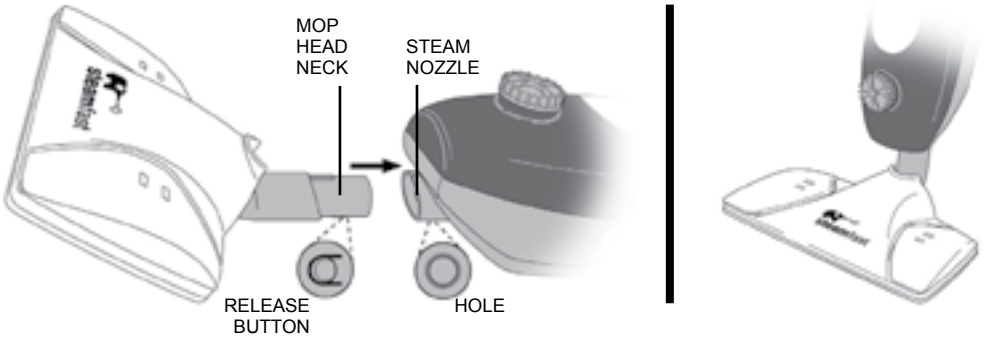

**FIGURE 1**
1. Insert threaded connector on bottom of Extension Pole into pole base on main unit (FIGURE 1-A).
2. Rotate Extension Pole in a clockwise direction as shown to screw it into pole base (FIGURE 1-B). Make sure Pole is tightly secured to main unit.
- A) Rotate upper (thicker) section of Extension Pole in “UNLOCK” direction indicated on label to unlock it (FIGURE 1-C).
- B) Adjust upper section to desired length (FIGURE 1-D).
- C) Rotate upper section of Extension Pole in “LOCK” direction indicated on label to lock it back in place (FIGURE 1-E).